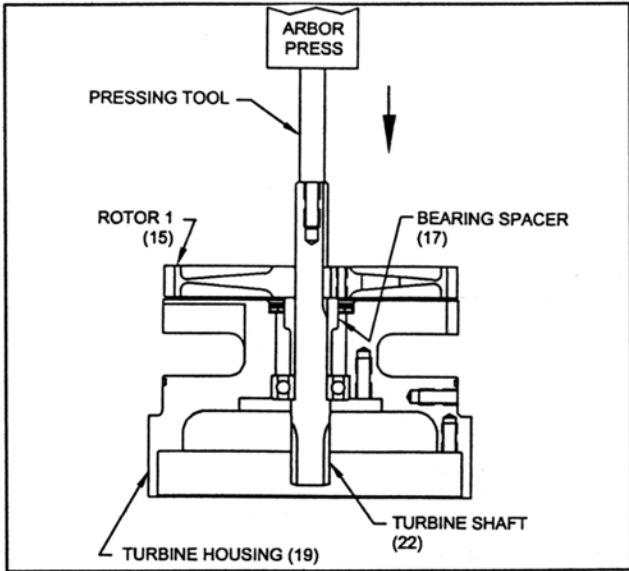

Figure 10. Turbine Shaft Removal
Press turbine shaft (22) through turbine housing (19) as shown in figure 10. Remove bearing spacer from turbine shaft.